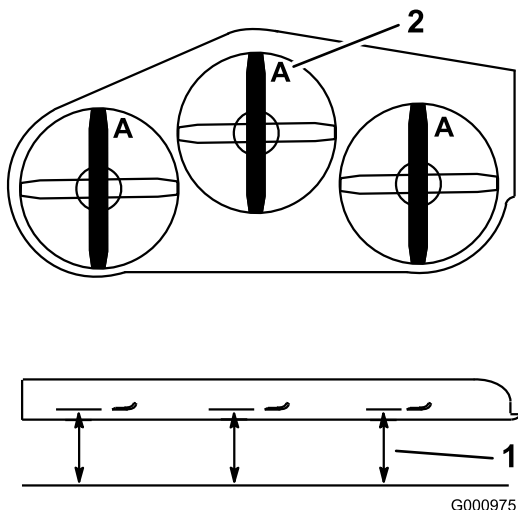

Figure 56
4. Measure from a level surface to the cutting edge, position **A**, of the blades (Figure 56).